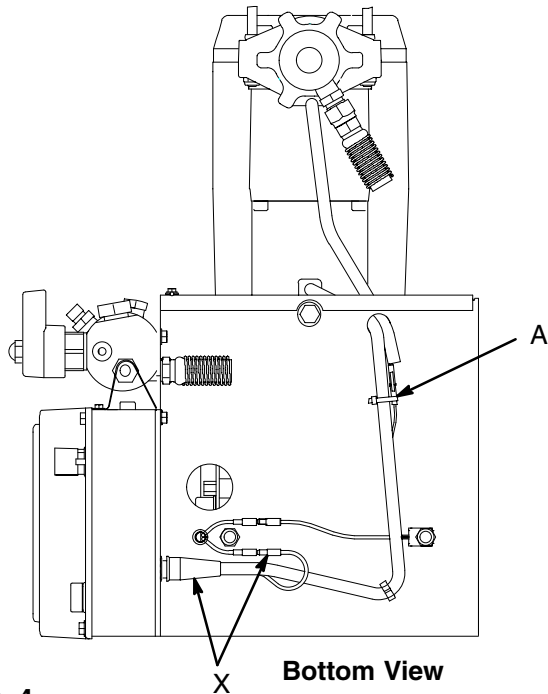

Fig. 4 8699A
3. Fig. 4. Disconnect gallon counter sensor at (A). **Cut tie wrap holding gallon counting sensor wire to clutch wire.**
1. Liberally apply bearing grease (supplied with replacement gear cluster) to gear cluster (18) and to areas called out by note 3. Use full 0.62 pint (0.29 liter) of grease for GMax 3900 and 0.68 pint (0.32 liter) of grease for GMax 5900.
2. Place bronze colored washer (20g) on shaft protruding from large shaft of drive housing (20). Place silver colored washer (20h) on pinion housing. Align gears and push new drive housing straight onto pinion housing and locating pins (B).
3. Install four screws (10) and lockwashers (17) from pinion housing (19).
4. Install two screws (81) and lockwashers (17).
5. Fig. 4. Connect gallon counter sensor at (A). **Secure gallon counting sensor wire to clutch wire with a tie wrap.**